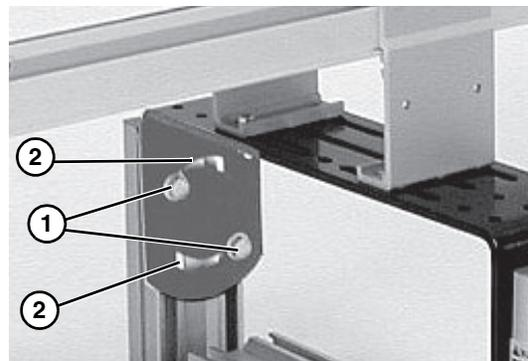

Figure 15
<p>To rotate stand top plate, screws (Figure 15, item 1) may need to be re-located to t-slots (Figure 15, item 2).</p>
1. Loosen flange head hex screws (Figure 15, item 1) on both sides of stand.
<p>Failure to secure screws (Figure 15, item 1) may cause conveyor sections to drop down, causing severe injury. TIGHTEN ALL SCREWS (Figure 15, item 1) AFTER ADJUSTMENT.</p>
3. Secure screws (Figure 15, item 1) to 150 in-lb (17 N-m).